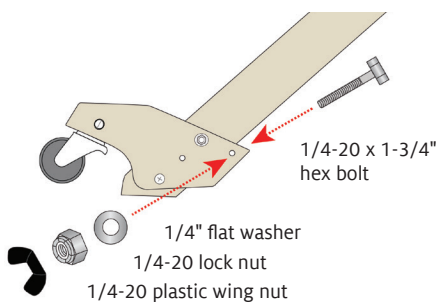

FIGURE 7: ATTACH HEX BOLT ON FRONT STROLLER BLOCK
6. The empty hole of the stroller block (closest to the back of the loom) attaches the stroller bar when the loom is folded. From the inner side of the block, insert a 1/4-20 x 1-3/4" hex bolt through this hole, as shown in Figure 7. On the outer side of the block, add a 1/4" flat washer and a 1/4-20 lock nut to the bolt shaft. Tighten the lock nut securely. Add a 1/4-20 plastic wing nut to the shaft—this wing nut will hold the stroller bar in place when you fold the loom.